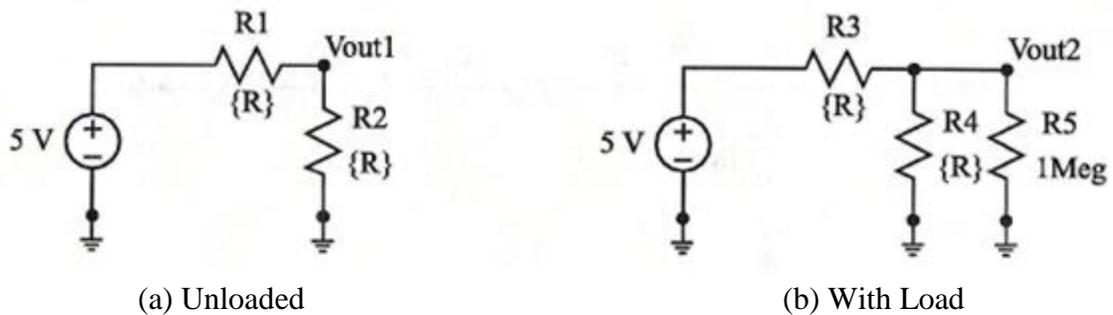

Figure 6.5: Circuits to test the loading effect of a measuring instrument having a $1\text{M}\Omega$ input resistance.
- a. Build the two voltage-divider circuits in Figure 6.5 in LTspice on the same schematic page. Note that the resistor values are a variable {R}, the source voltage is 5 V DC and each output node is labeled.